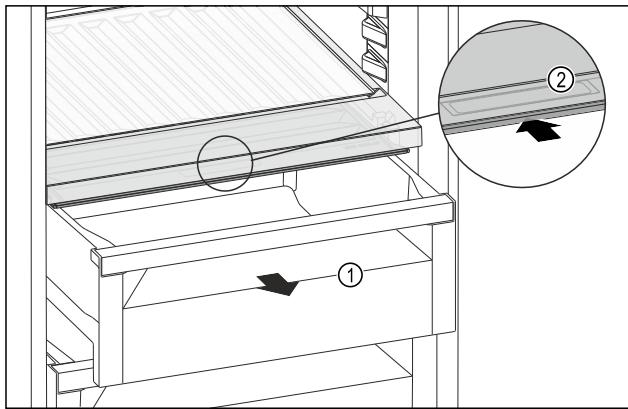

Fig. 110
- ▶ Pull out the drawer Fig. 110 (1).
- ▶ Grasp the recessed grip Fig. 110 (2) on the compartment lid and push the compartment lid backwards at the same time.